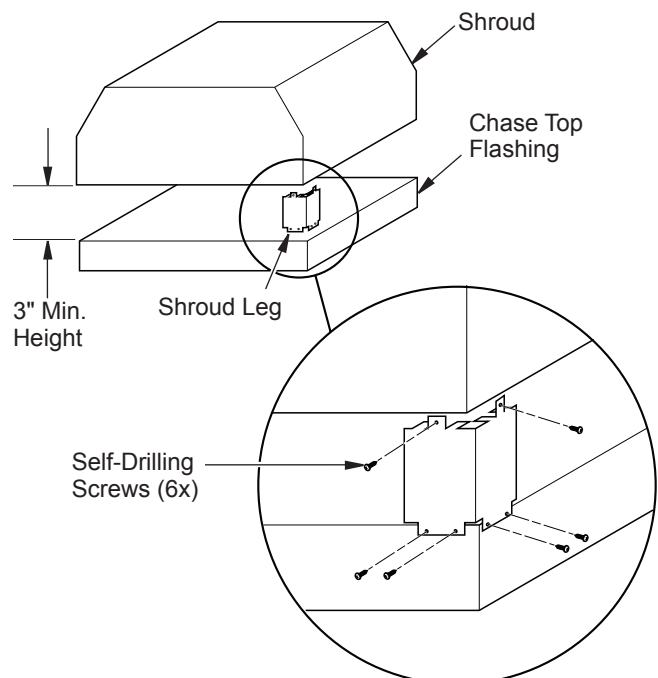

Figure 10 - Shroud Leg Installation
2. Secure shroud legs with self-drilling screws as shown in Figure 10. Note: Both corner edges should be flush.